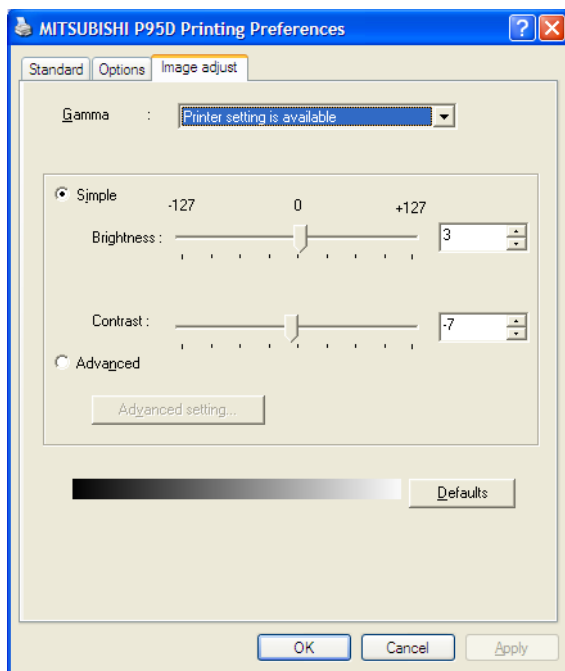

Figure 3-50 Image Adjust page
- 4.) Select the **IMAGE ADJUST** page (see: Figure 3-50 below) and select: